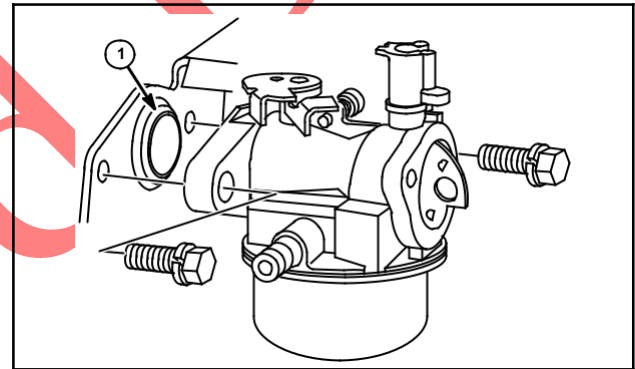

Fig. 117
Place fuel intake pipe seal in chamfer of carburetor (1) and install carburetor with two mounting screws torquing screws to 75 in. lbs. (9 Nm), Fig. 117.